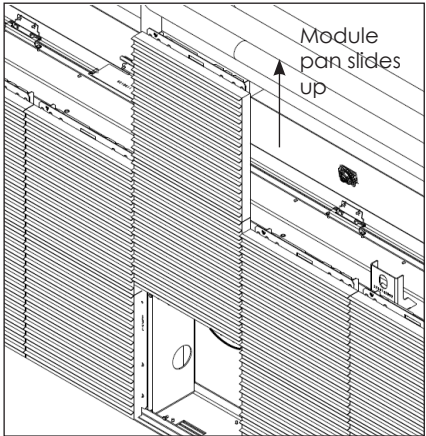

Figure 43: Remove Module Pan
5. Ensure all cables are unplugged and then raise the module pan carefully until free of the track and over the rail into a safe position. The module pan should now be ready for servicing, and the lanyard may be unhooked. Refer to **Figure 43**.